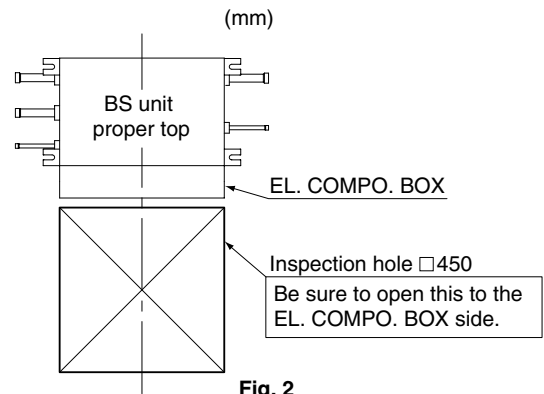

Fig. 2
- Locations where an inspection hole (**Refer to Fig. 2**) can be installed to EL. COMPO. BOX side (See Note).